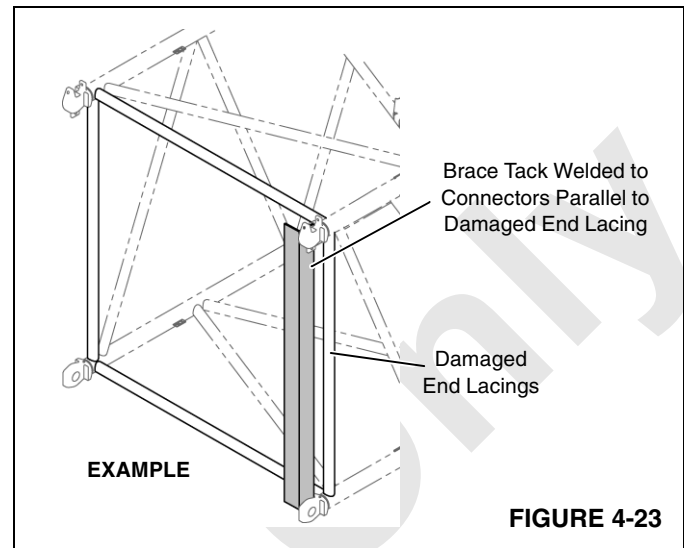

FIGURE 4-23
3. If another lattice section is not available, tack weld a temporary brace to the connectors parallel to the damaged lacing (see Figure 4-23).